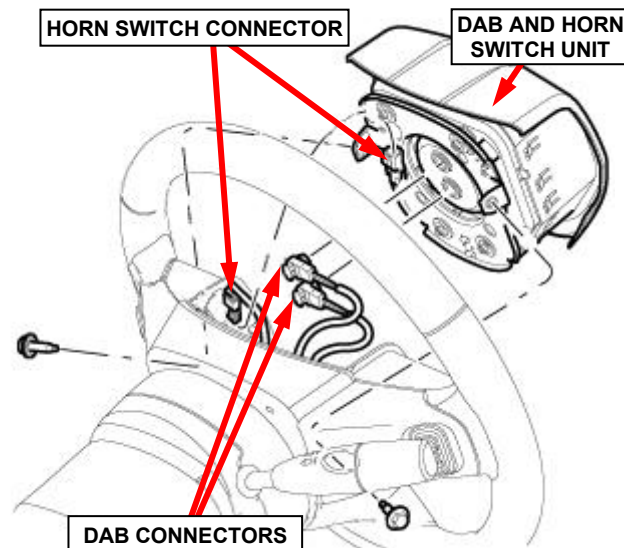

Figure 5 – Horn Switch Connector
4. Disconnect the steering wheel wire harness connector from the floating horn switch connector on the back of the DAB unit (Figures 5 and 6).
9. Reconnect the wire connectors to the air bag inflator connector receptacles by pressing straight in on the connector insulator. Be certain to engage each keyed and color-coded connector to the matching connector receptacle. You can be certain that each connector is fully engaged in its receptacle by listening carefully for a distinct, audible click as the connector latches snap into place (Figures 5 and 6).